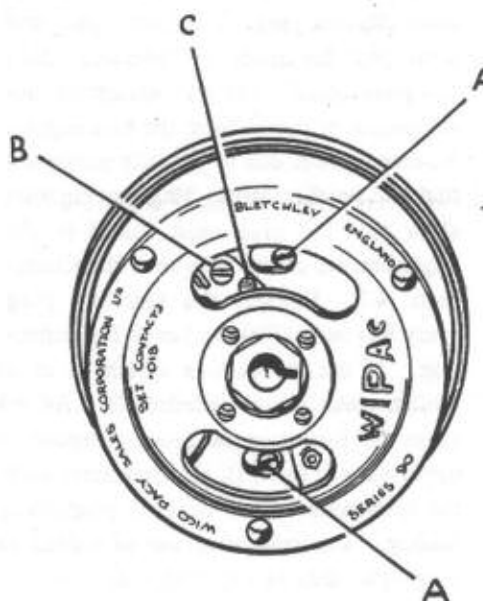

Fig. W3
To carry out this adjustment, slacken the locking screw (B. Fig. W3) and rotate the eccentric screw (C) until the gap is correct. Tighten the locking screw and recheck the gap. The breaker point setting should only be adjusted in the manner described and in no circumstances should the fixed contacts be loosened or the breaker arms bent to provide adjustment.
If the timing is not correct, the screws (A. Fig. W3) should be slackened, the magneto backplate rotated until the setting is correct, and the screws retightened. Rotating the backplate in a clockwise direction advances the ignition.